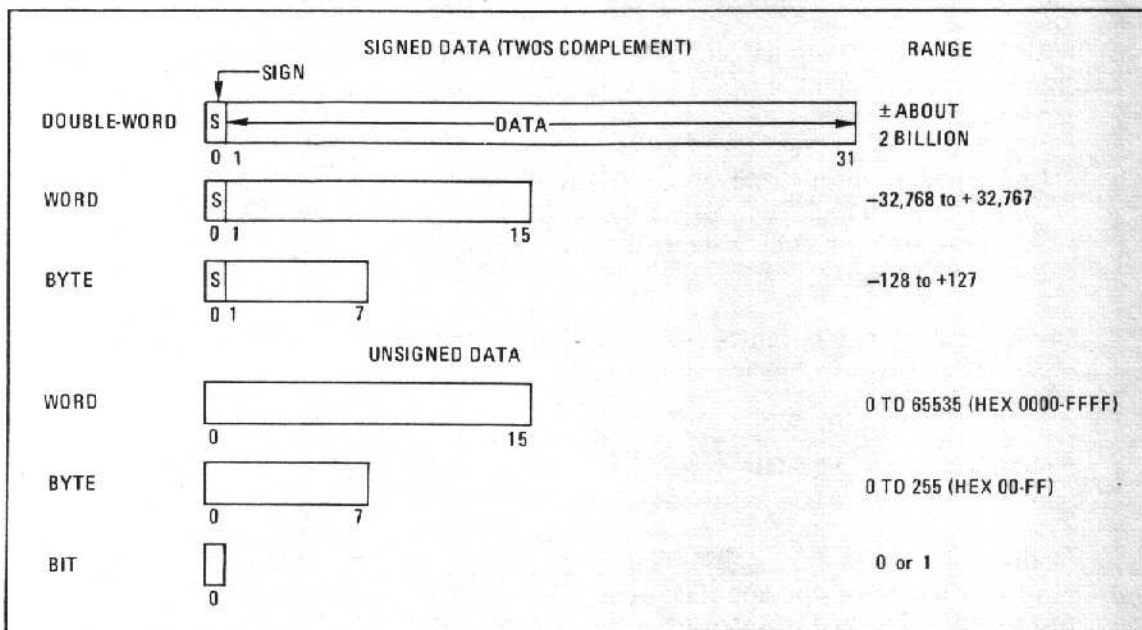

Figure 3-1. Data Formats
*Arithmetic (signed) data* is represented in twos complement notation. All arithmetic is performed in binary, with single word (16-bit) values extending from -32,768 to +32,767. A signed value in a byte can range from -128 to +127. Figure 3-1 shows the various data types for both signed and unsigned data.